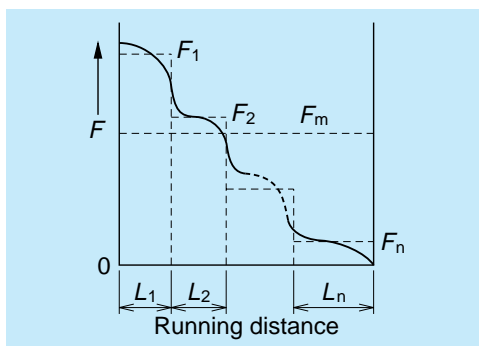

Fig. II-3\*4 Variable load by phase
#### ① When load and running distance vary by phase (Fig. II-3\*4)